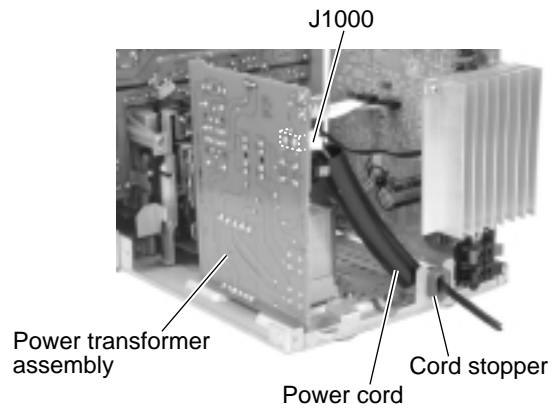

Fig.16
■ Removing the power transformer assembly (See Fig.16 and 17)